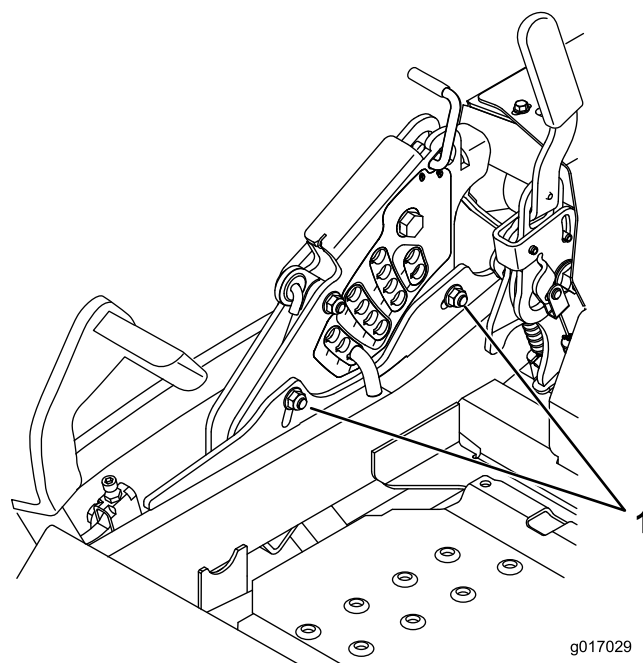

Figure 93
11. To adjust the single point system, loosen the two bolts at the bottom of the height of cut plate. Refer to Figure 93.
13. Tighten the two bolts at the bottom of the height of cut plate (Figure 93). Torque to 37-45 N-m (27-33 ft-lb).